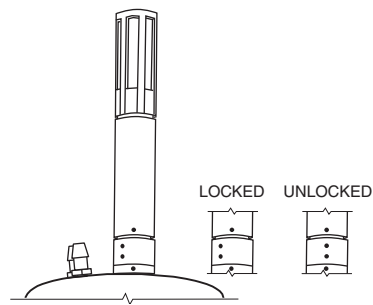

Figure 3. Unlocking and Locking the Probe
2. Unlock the probe by aligning the dots on the probe's locking collar as shown in Figure 3.